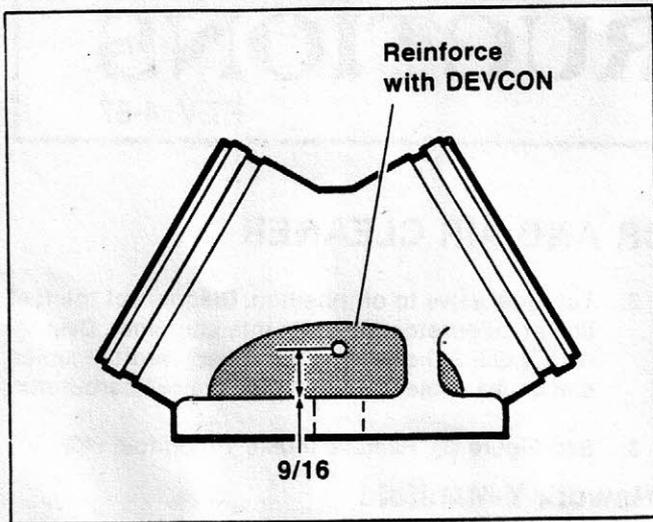

Figure 2. V.O.E.S. Fitting Location
5. See Figure 2. Using DEVCON, aluminum pigmented epoxy filler, or equivalent, build up the wall thickness in the area shown to approximately 3/32 in. to compensate for the material removed when enlarging the bore. After the material has hardened, file or sand smooth.
6. See Figure 2. If your engine has electronic ignition with a vacuum operated electric switch, (V.O.E.S.) drill and tap a hole for a 1/4-28 UNF thread approximately 9/16 in. from the mounting flange at top of manifold.